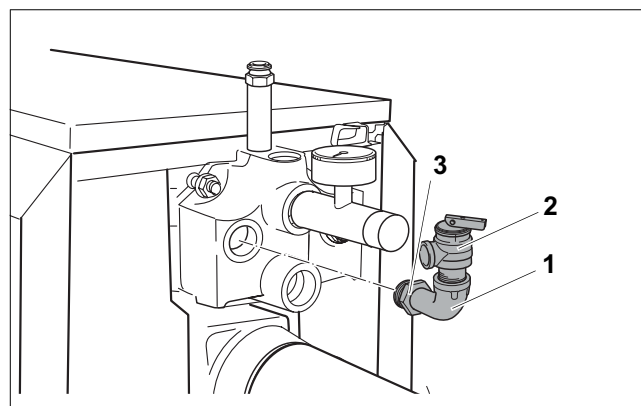

Fig. 47 Installing B-Kit
- Seal pressure relief valve connection (→ Fig. 47 page 35) and all other open connection with blind plugs.
- Installing pressure relief valve (→ Fig. 47 page 35).